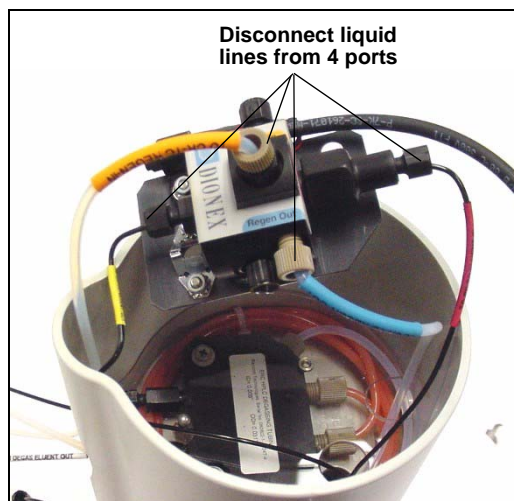

Figure 5-59. Disconnecting CR-TC Liquid Lines
3. Disconnect the line labeled **TO INJ VALVE IN - P/ELUENT OUT** from port **P (2)** on the injection valve and disconnect the line labeled **SRS/AES REGEN OUT** from the **REGEN OUT** port on the suppressor.
7. Disconnect the liquid lines from the four ports on the CR-TC (see Figure 5-59).